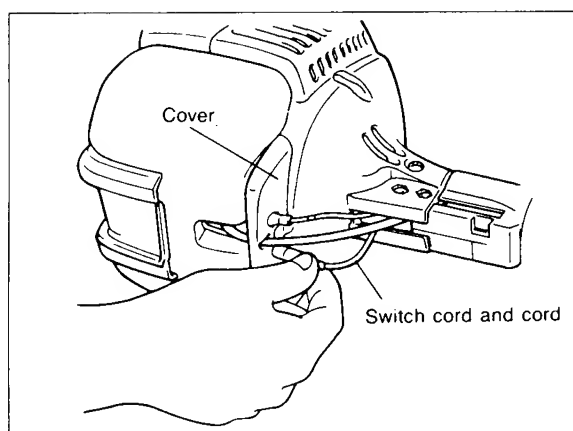

Fig. 9
5. Connect the switch cords to the two cords from the engine by inserting one into the other. Insert them through the holes in the cover. (Fig. 9)